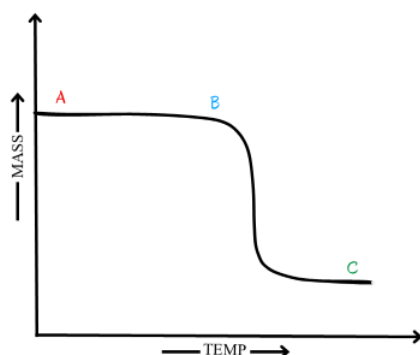

Figure 2.4 Typical TG curve
The graphical information obtained from thermogravimetric analysis is known as thermogram/pyrolysis curve. TG curve is a plot of weight (W) decreasing downwards on the y-axis (ordinate), and temperature (T) increasing to the right on the x-axis (abscissa). A typical thermogram for a single step decomposition is shown in Fig. 2.4.
In the above example (Fig. 2.4), we have considered the thermogravimetric curve which represents a single stage decomposition. Figures '2.5a' and '2.5b' show two-stage and three-stage decompositions respectively. In both these figures (2.5a and 2.5b) there is an overlay of TGA and DTG thermograms, clearly depicting advantages of DTG over TGA thermogram in locating the exact decomposition temperature.